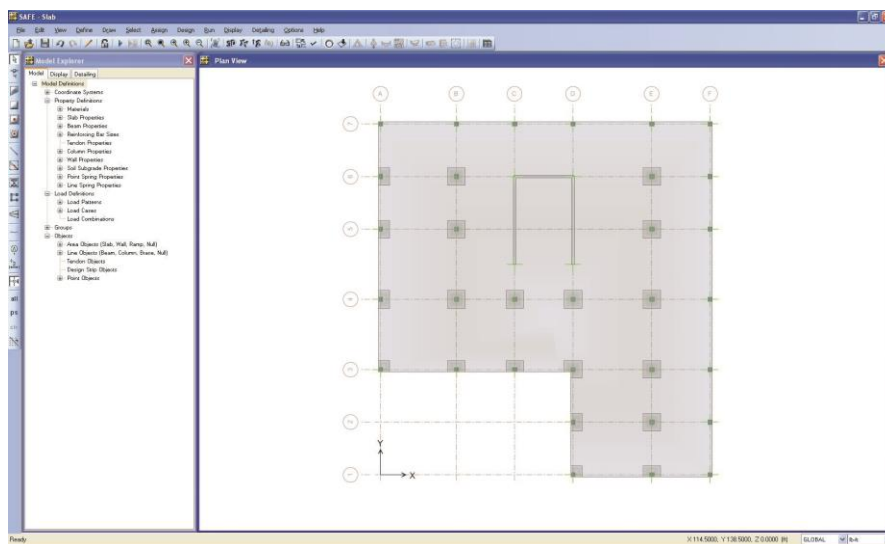

Figure 27 The model after drawing columns and walls
- N. Click on the **Select menu > Select > Pointer/Window** command or press the **Esc** key on the keyboard to exit the Draw Walls command. Your model should look similar to Figure 27.